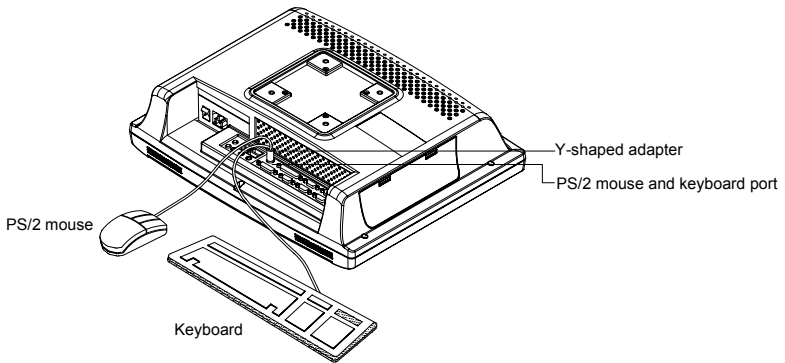
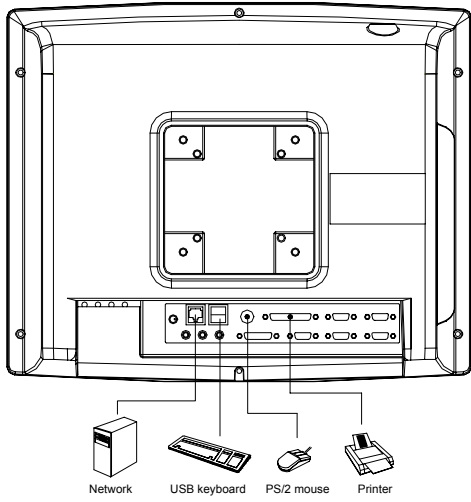

Figure 2.6: Connecting the keyboard and mouse
Figure 3.4: I/O interface (excluding COM ports)
1. Connect the Y-shaped adapter to the PS/2 mouse and keyboard port on the I/O section of the panel PC. (See Fig. 2-6.)
2. Connect the PS/2 mouse and keyboard to the Y-shaped adapter. (See Fig. 2-6.)
2. Connect the Y-shaped adapter to the PS/2 mouse and keyboard port on the rear bottom side of the rear cover. (See Fig. 3-4 and Fig. 2-6.)
3. If necessary, attach the other end of your printer cable to your printer, and fasten any retaining screws. A typical parallel printer connection is illustrated in Fig. 3-4.
1. Connect the external device to the system. (See Fig. 3-4.)
2. Connect the external device(s) to the POC-153. (See Fig. 3-4.)